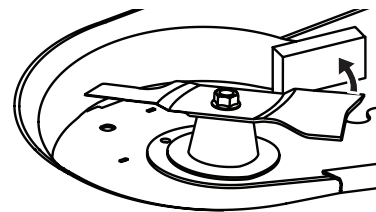

Fig. 55
1. Secure the blade from turning counterclockwise during service by placing a block of wood between the blade and the deck housing (Fig. 55), or wrap a rag around one end of the blade and wear heavy gloves to grasp the blade firmly.